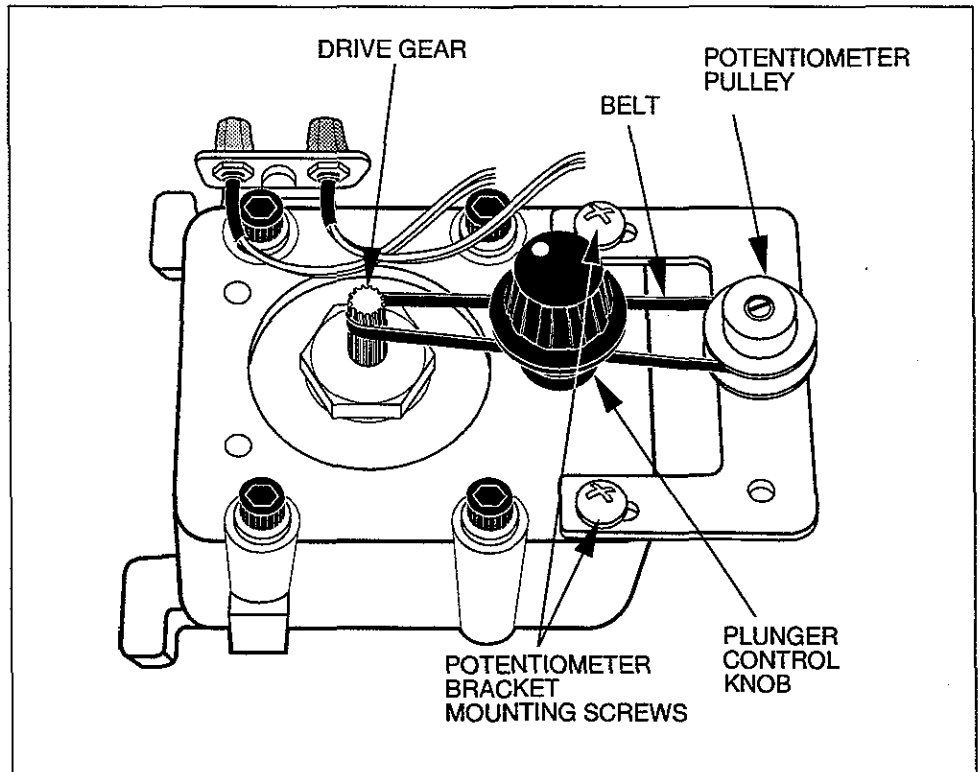

Figure 6-3
2. Remove the belt from the pot (see Figure 6-3) by sliding the belt off the drive gear and lifting the belt off the pot gear.